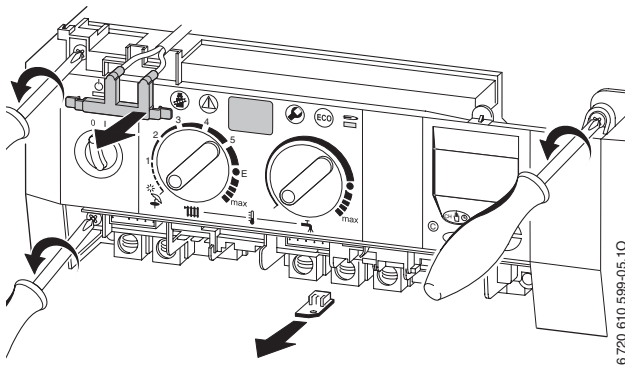

Fig. 61
- ▶ Remove two fixing screws from the control box. Refer to fig. 61.